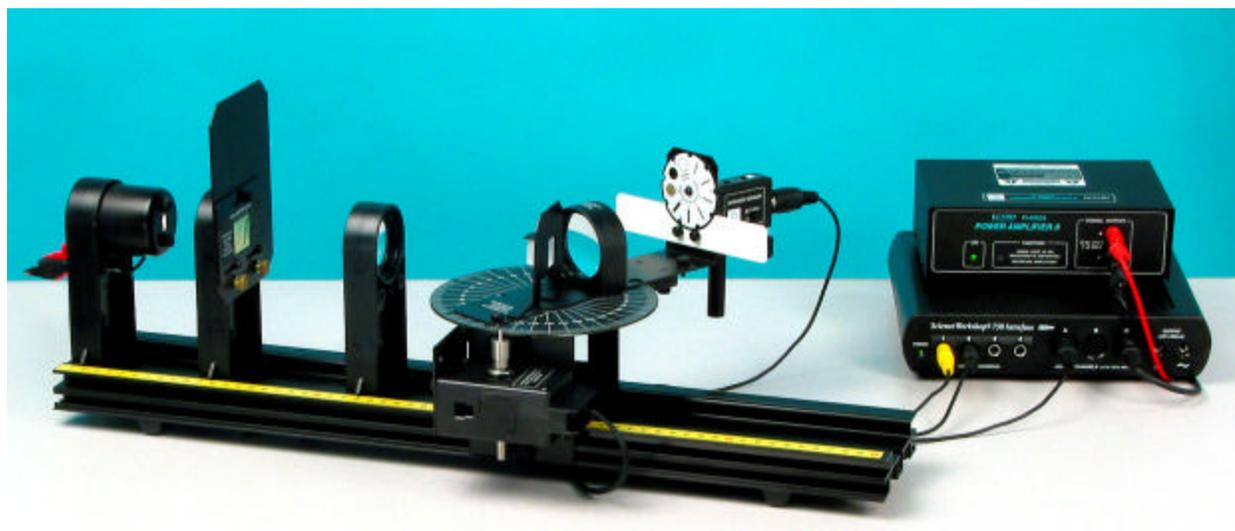

Figure 1: Complete Setup
1. Set up the Prism Spectrophotometer as shown in Figure 1. Attach a grounding wire to the spectrophotometer table as instructed by your teacher. The light sensor used in this experiment is the Broad Spectrum Light Sensor.